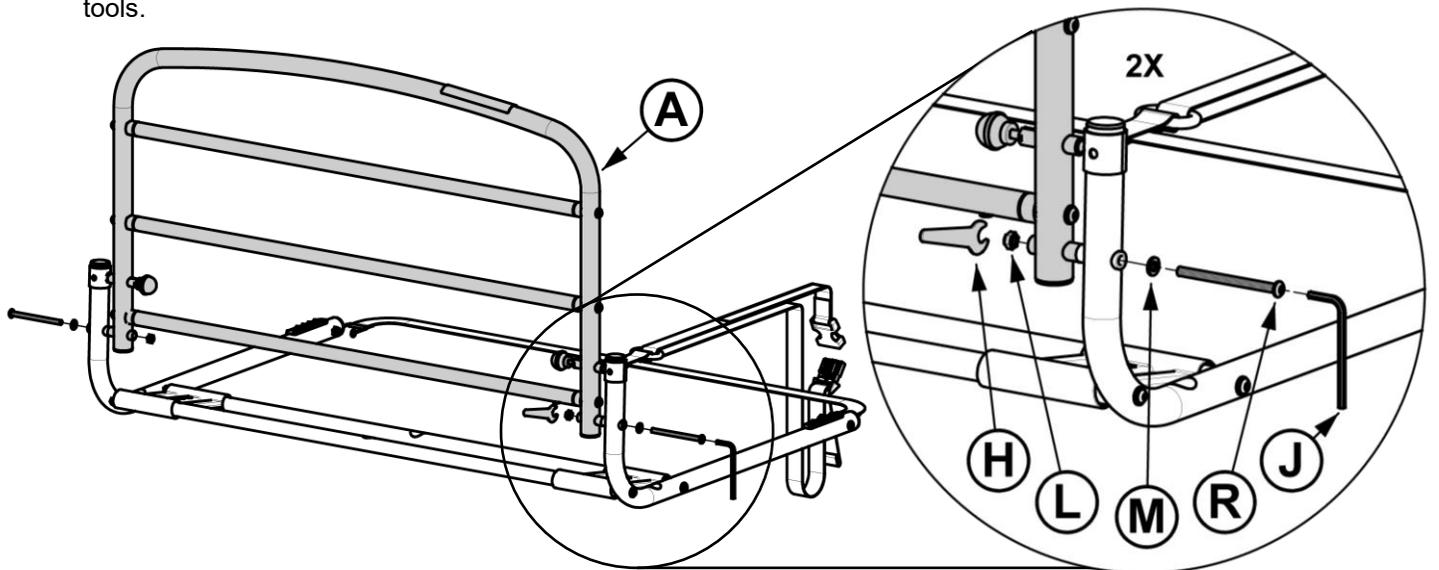

FIGURE 3
3. Attach Bed Rail A to Legs B and C as shown in *FIGURE 3*. Fully tighten all Bolts from steps 2 and 3 using provided tools.